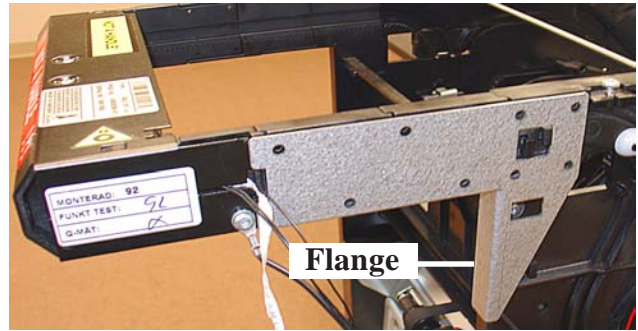

Figure 10. Bracket installed.
- Install the (L) and (R) side brackets as shown in (Figure 10). The flange on the brackets will be facing “in”.